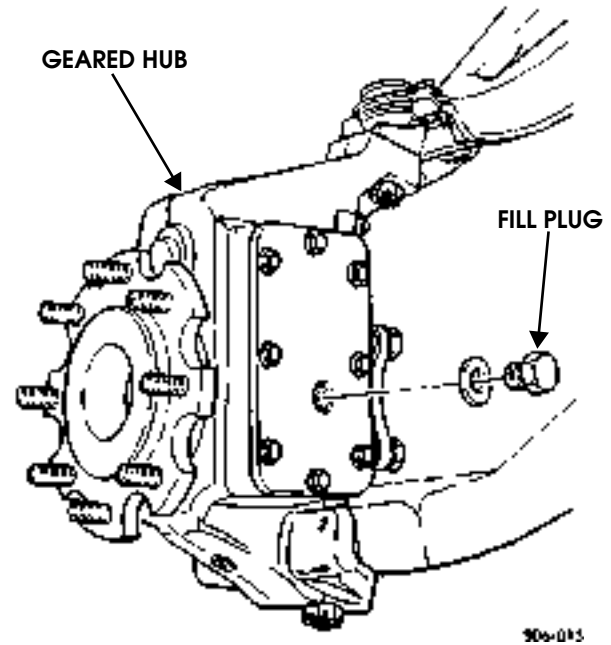

Figure 9-18: Geared Hub Fill Plug
13. Remove fill plug and washer from geared hub (Figure 9-18).